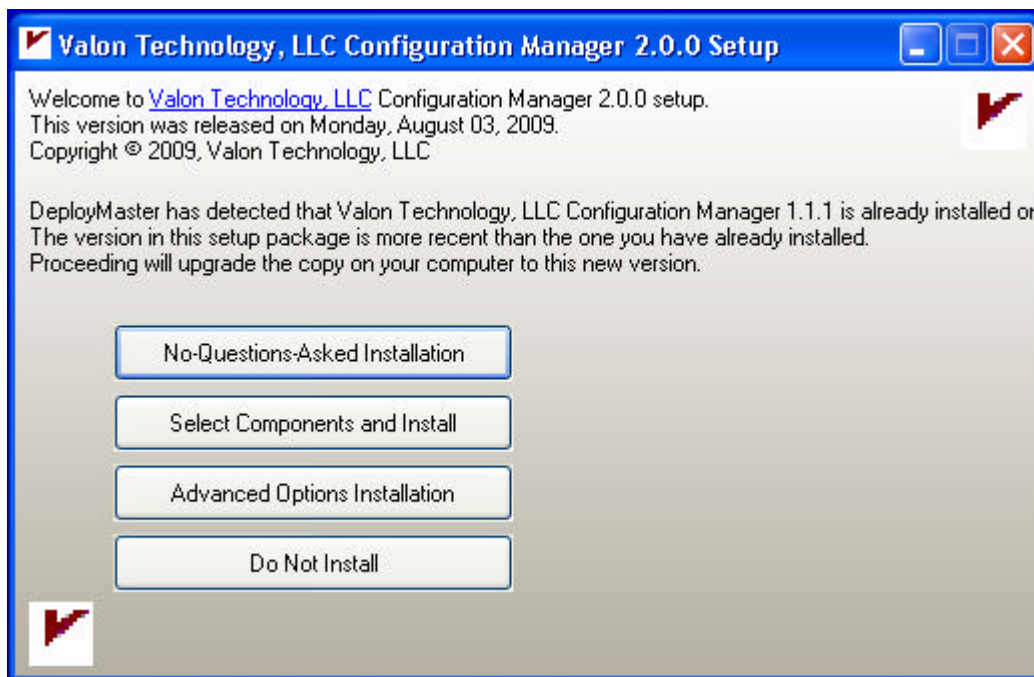

Figure 2-1 Installation Options Window
- b. Using the **MyComputer** utility in Windows, open the CD-ROM named "**Valon Technology**" and click on the "**setup.exe**" file. The installation program will start by displaying the **Installation Options Window** as shown in Figure 2-1 below.